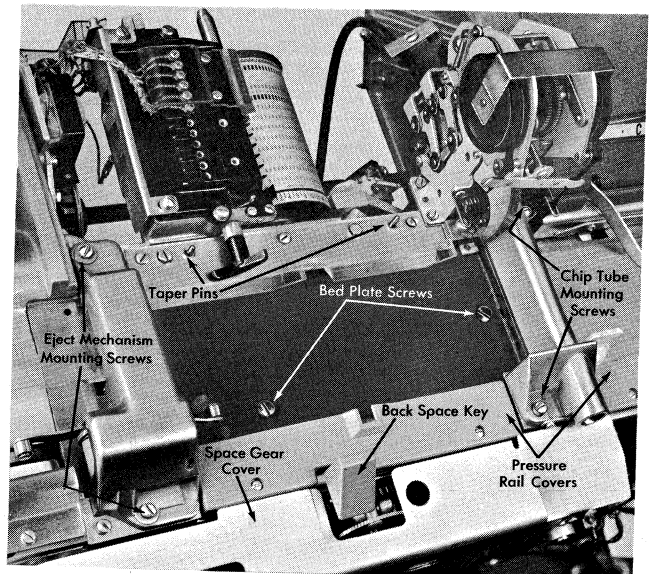

Figure 45. Punch Bed (Front View)
- b. Chip tube by taking out two screws (Figure 45). Be careful not to lose the pressure roll spring.
3. Remove chip tube by taking out two screws (Figure 45). Be careful not to lose the pressure roll spring.
5. Remove front pressure rail covers at punch and read stations (Figure 45).